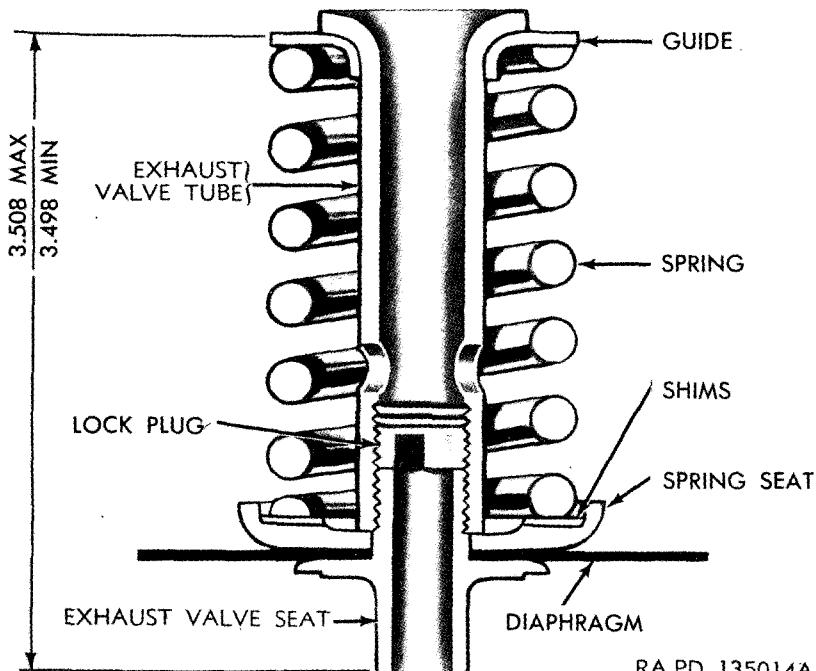

Figure 93. Pressure-regulating-spring-and-diaphragm assembly.
(1) *Pressure-regulating-spring-and-diaphragm assembly* (fig. 93).
1. If it is necessary to replace the diaphragms or the exhaust valve seat, extreme caution must be used to be sure the same shims are again used in the pressure-regulating-spring-and-diaphragm assembly. To disassemble the pressure-regulating-spring-and-diaphragm assembly, insert a set screw wrench down through the exhaust valve tube to engage the wrench socket of the lock plug, hold the hexagon portion of the exhaust valve seat in a vise and loosen the lock plug. Unscrew the tube from the exhaust valve seat (figs. 93 and 95).
2. Install new diaphragms so the grain of one is at right angles to the grain of the other. After all parts are positioned, the tube and exhaust valve seat must be screwed together until the distance between the end of the exhaust valve seat and the top of the tube is between 3.498-inch minimum and 3.508-inch maximum (fig. 93). After this dimension has been established, the lock plug must be securely tightened.